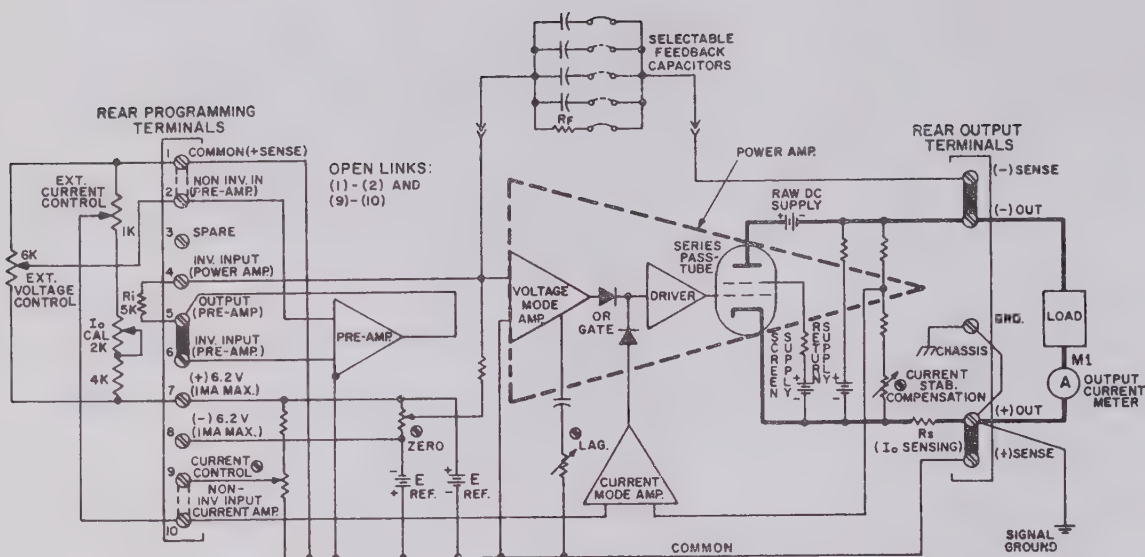

FIG. 3-13 CONNECTIONS FOR OUTPUT CURRENT CONTROL, USING AN EXTERNAL POTENTIOMETER.
- 2) Refer to FIG. 3-13, Connect all external components as shown. Turn OPS "on." Adjust the EXTERNAL VOLTAGE CONTROL to the required load compliance voltage. Adjust the EXTERNAL CURRENT CONTROL to the position yielding the minimum output current.